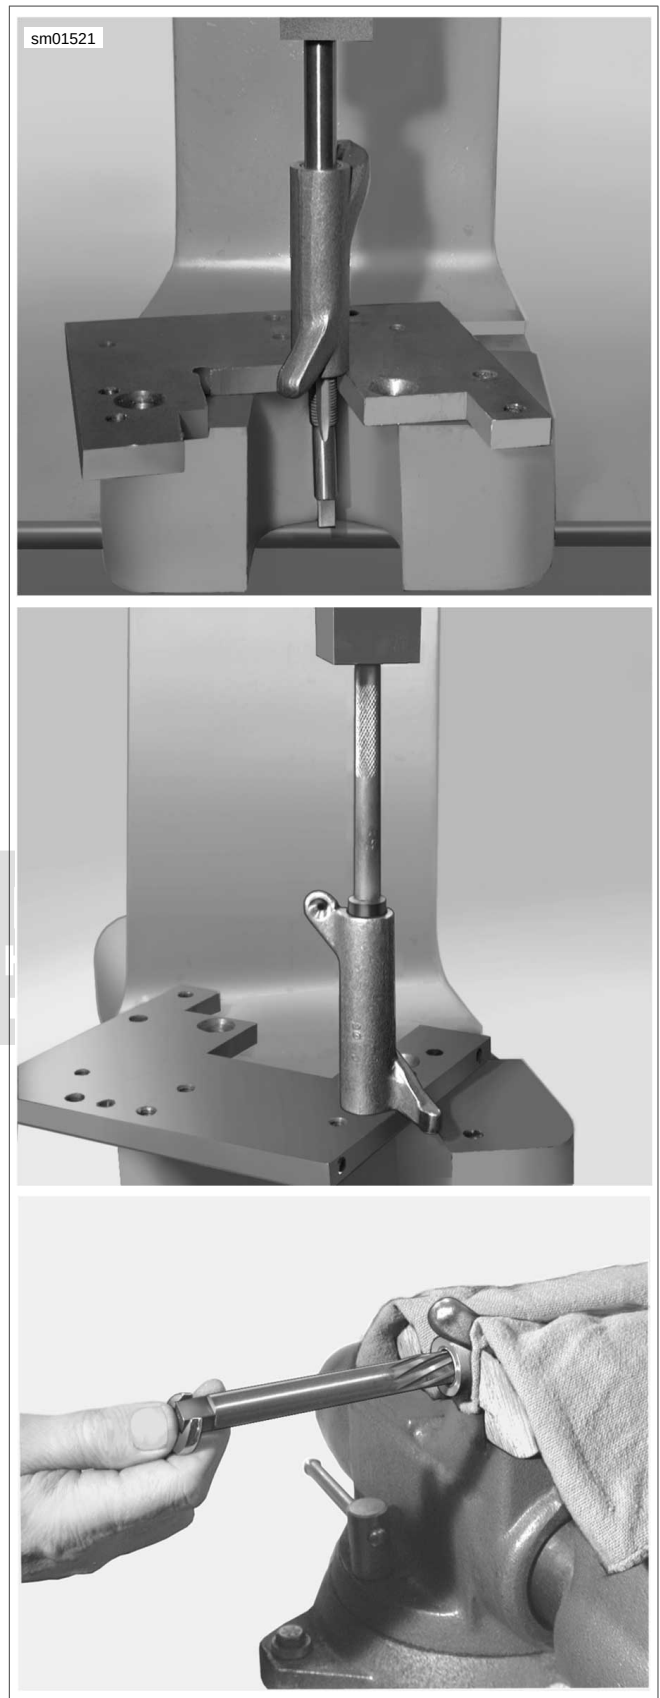

Figure 3-122. Replacing Rocker Arm Bushings
1. See Figure 3-122. To replace worn bushings, press or drive them from the rocker arm. If bushing is difficult to remove, turn a 9/16-18 tap into bushing. From opposite side of rocker arm, press out bushing and tap using a discarded rocker arm shaft.